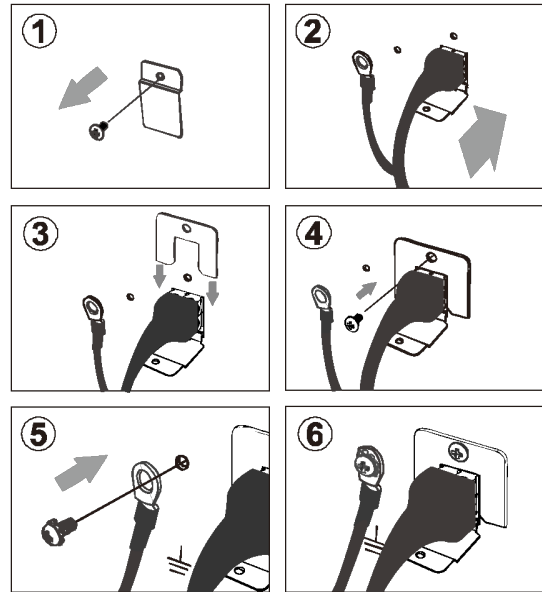
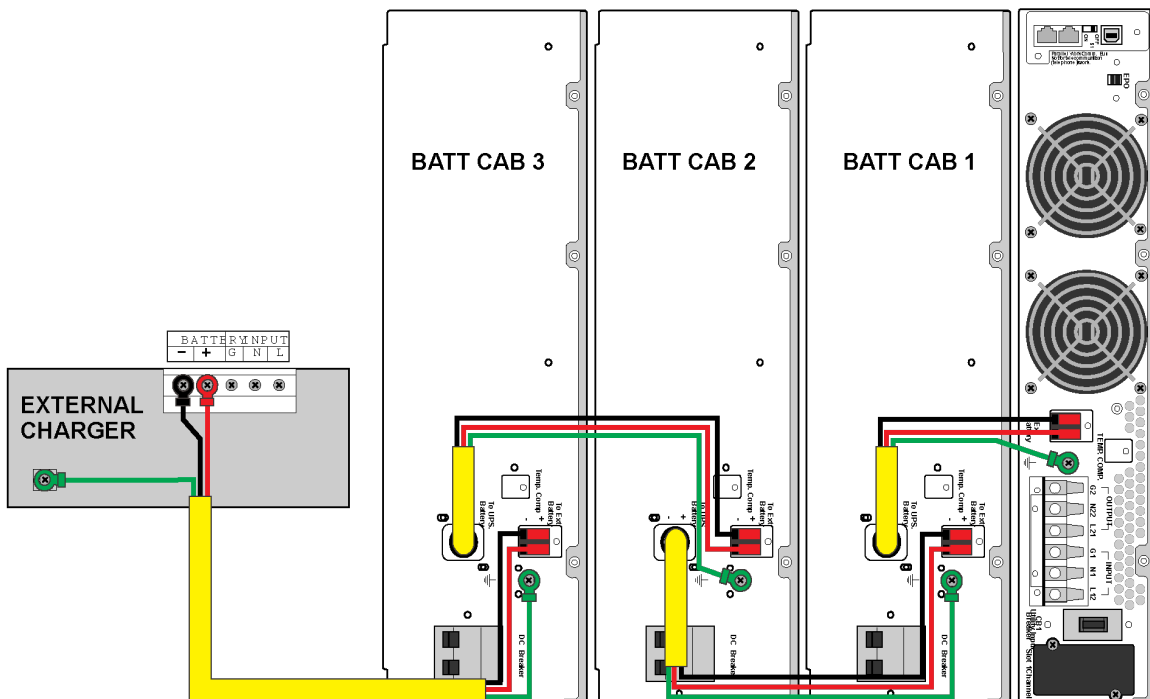

Figure 3.11 Battery cable connection
Figure 3.12 External battery charger connection
Figure 3.12 shows a UPS system comprising three battery cabinets and illustrates how the cabinets are connected together in a daisy-chain fashion.
5. Connect the supplied DC cable between the external charger and the battery cabinet as shown in Figure 3.12, using the correct Anderson plate to secure the battery connector in place, as shown in Figure 3.11.
8. Secure all cables to the two cleats (2) located beneath the terminal block (3) using two cable ties.
9. Fit and secure the terminal block cover (5).